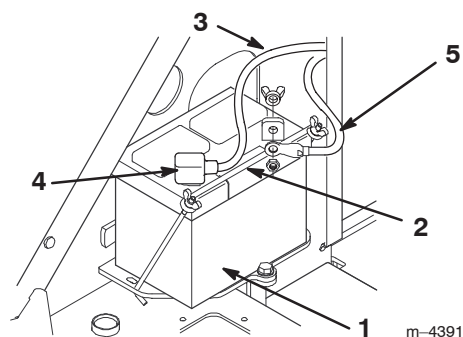

Figure 21
4. Remove the wing nuts and bar securing the battery (Fig. 21).